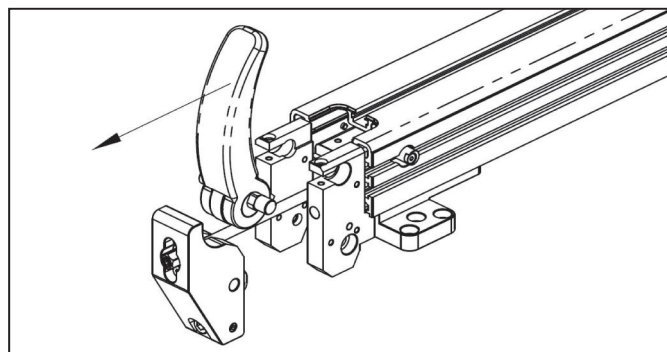

Fig. 9-8
(8) Extract the handle assembly, as demonstrated in Fig. 9-8.